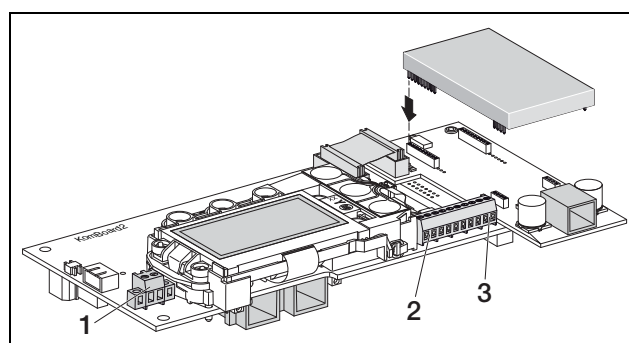

Fig. 37: Connections
- Connect the lines to the appropriate terminals (fig. 37, position 1).